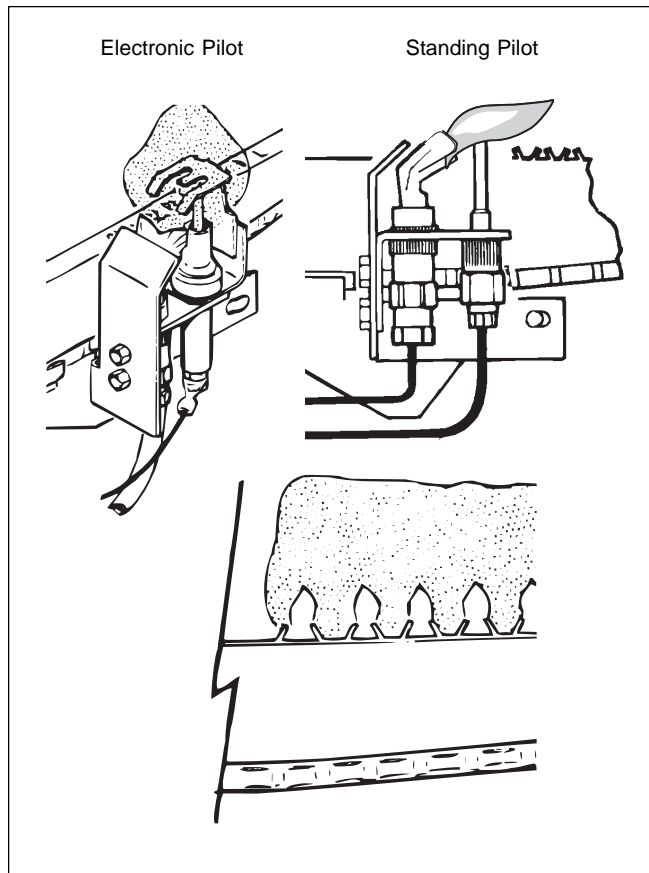

Figure 29. Flame patterns.
3. At startup and every 6 months after, look at the pilot and main burner flame (see Figure 29). If the flame has the appearance of sooting tips, check for debris near orifices. Call service technician.